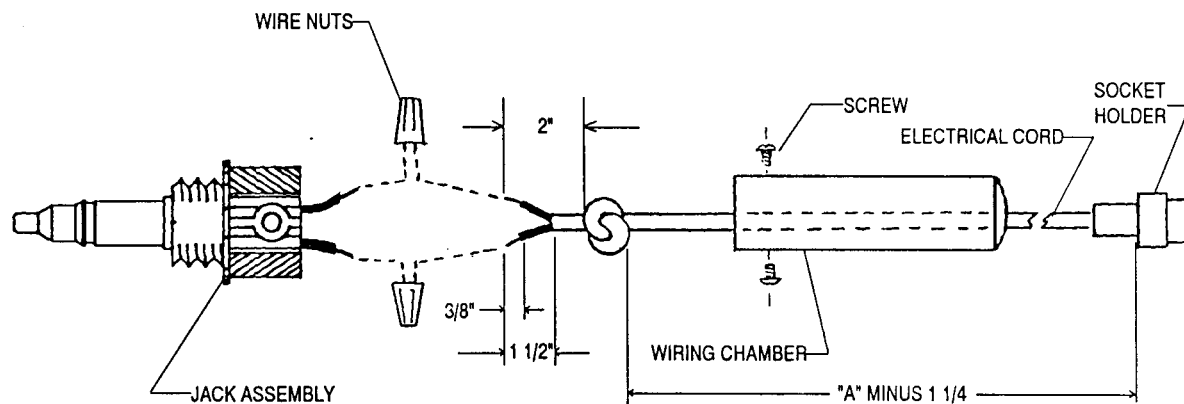

FIG. 2
ELECTRICAL CONNECTIONS (FIG. 2 & 3)
1. Thread the ELECTRICAL CORD through the WIRING CHAMBER (Fig. 2).
2. Knot the ELECTRICAL CORD so a length of ("A" minus 1 1/4") remains from the knot to the socket holder (Fig. 2).
3. Cut the electrical cord 2" from knot (Fig. 2).
4. Trim the outer jacket back 1 1/2" from the end of the CORD. DO NOT CUT WIRE (Fig. 2).
5. Strip 3/8" of the insulation on the wires from the JACK ASSEMBLY and ELECTRICAL CORD. Join them with the WIRE NUTS provided (no polarity needed) (Fig. 2).
7. Line up the 2 holes in the base of the JACK ASSEMBLY with the 2 holes in the WIRING CHAMBER and screw in the 2 SCREWS (Figs. 2).